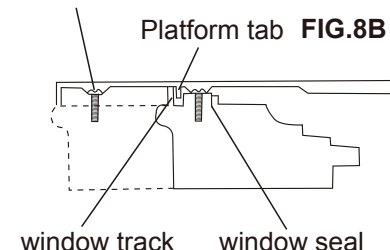

FIG.10
- 8 Securely attach a siding-protection board** to side of house (FIG.10). **NOTE:** Siding-protection board should be long enough to span 2 wall studs.